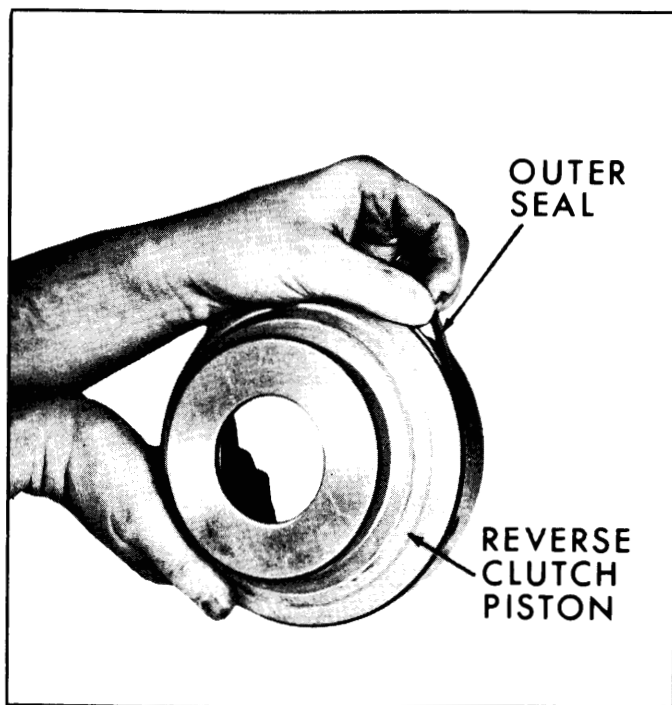

Fig. 7-54—Removing Low and Reverse Piston Outer Seal
23. Remove low and reverse clutch piston outer seal. (Fig. 7-54)